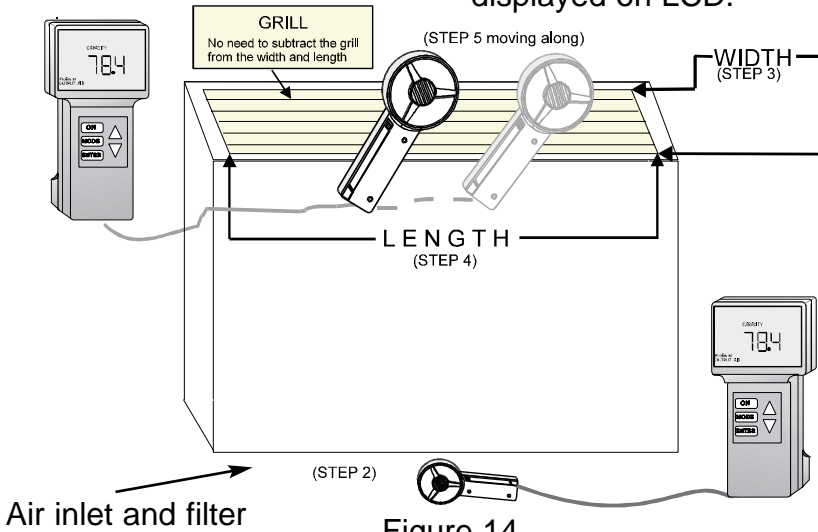
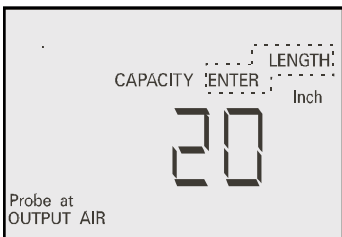
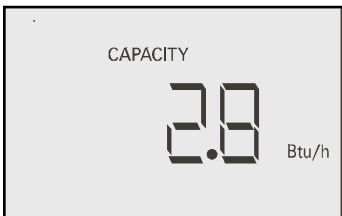

Figure 14
Figure 15
Figure 18
NOTE: When measuring return air it is recommended that the FAN SPEED IS SET ON HIGH and the probe is placed at the center of the inlet grill. (no movement is necessary during this measurement) (See Fig. 14)
5.5.4 Using the ∇/Δ buttons enter the outlet's width, in inches and press ENTER (Fig.14 step 3). Flashing "ENTER LENGTH" will be displayed on LCD.
5.5.5 The VA500A is requesting the A\C outlet's length. Using the ∇/Δ buttons enter the outlet's length, in inches. (Fig.14 step 4 & Fig.15) **DO NOT PRESS ENTER UNTIL STEP 5.5.7**
5.5.8 Measure for one minute (Fig.14 step 5) making sure to move the probe over the complete area of the grill (Ref. Step 5.4.6) Aim at getting an average reading from all available openings. At the end of one minute the unit will beep and the LCD screen will display the results in Btu/h.(Fig.18)